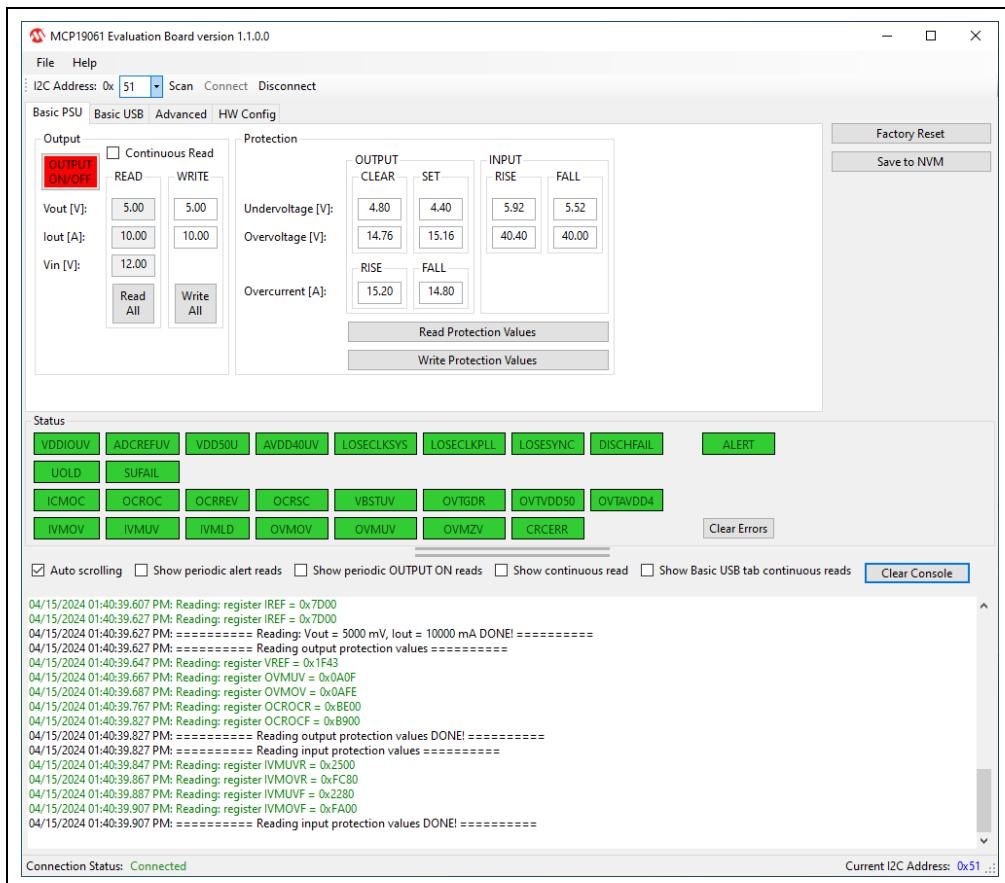

FIGURE 2-2: MCP19061 GUI.
- Updated Figure 2-2, Figure 2-3, Figure 2-4, and Figure 2-5.